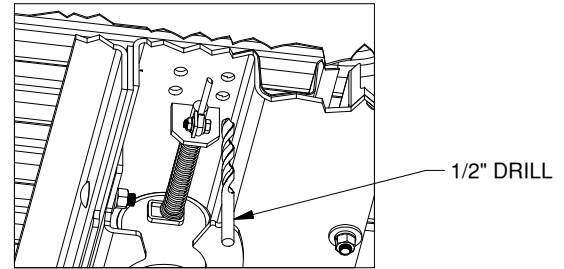

Figure E2: Cut away view of bed and center section.
1. **Drill the holes.** From under the bed use a drill and a 1/2" drill bit to drill through the bed using the four holes that match up with a low rib in the truck as a guide. Remove any burrs created during the drilling process, see Figure E2.